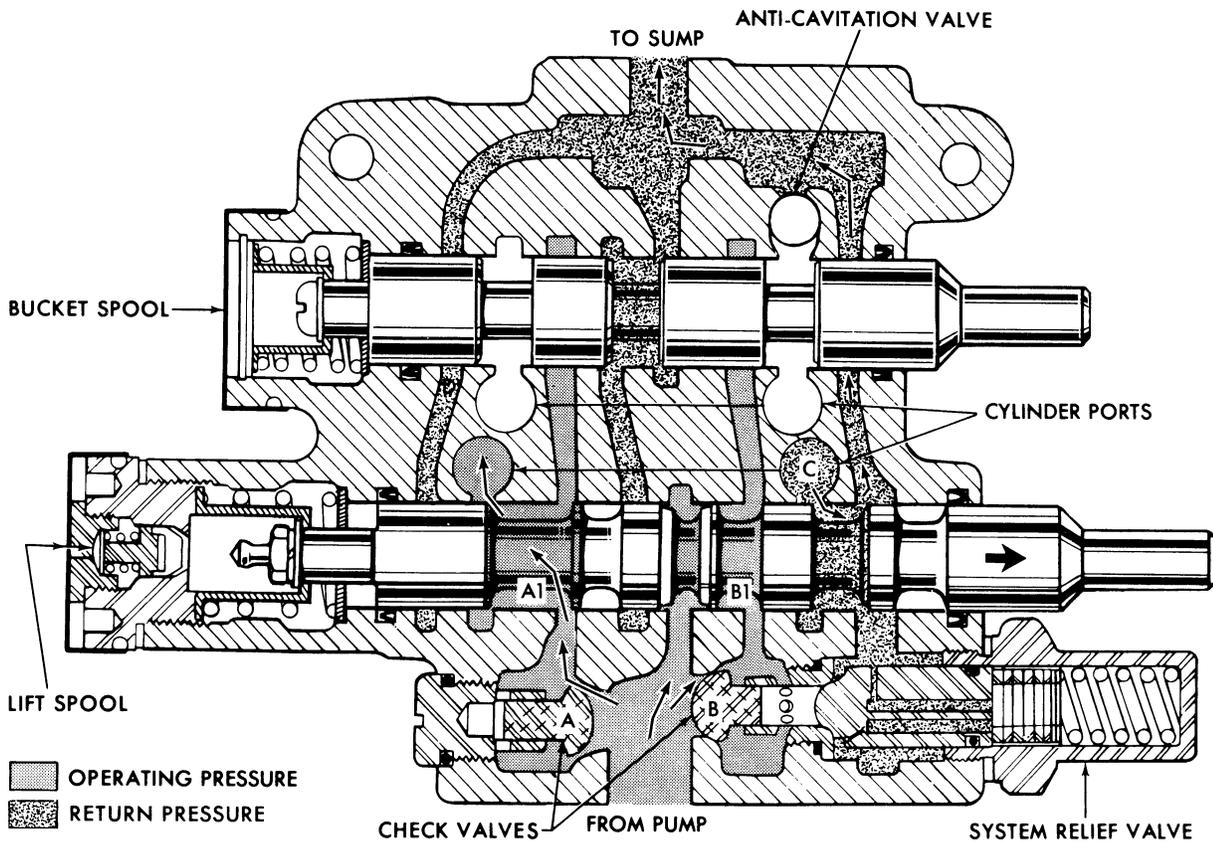

Figure 13
Figure 13 illustrates oil flow through the unit valve with the lift spool moved to direct oil to the piston end of the lift cylinder. Oil entering the valve at the inlet port is blocked by the positioning of the spool land, causing a pressure increase. As pressure builds, check valves (A) and (B) unseat to allow pressured oil to enter passage (a₁) and (b₁). Oil travels past the spool land in passage (b₁) and to the cylinder hose port. Return oil from the cylinder is dumped into the low pressure passages (C) and flows to the loader reservoir.